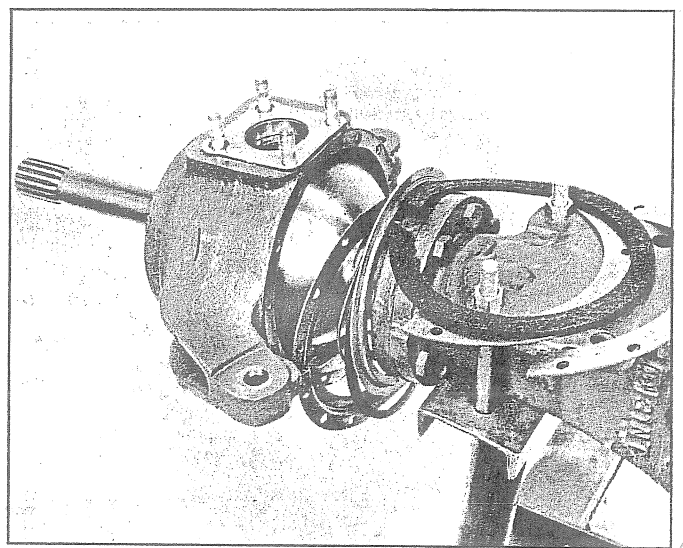

Fig. 12 - View Showing Seals and Bearing Trunnions Removed
14. Remove seals and retainer rings from spindle support. See Fig. 12.
15. Remove upper and lower bearing trunnion from spindle support. See Fig. 12.